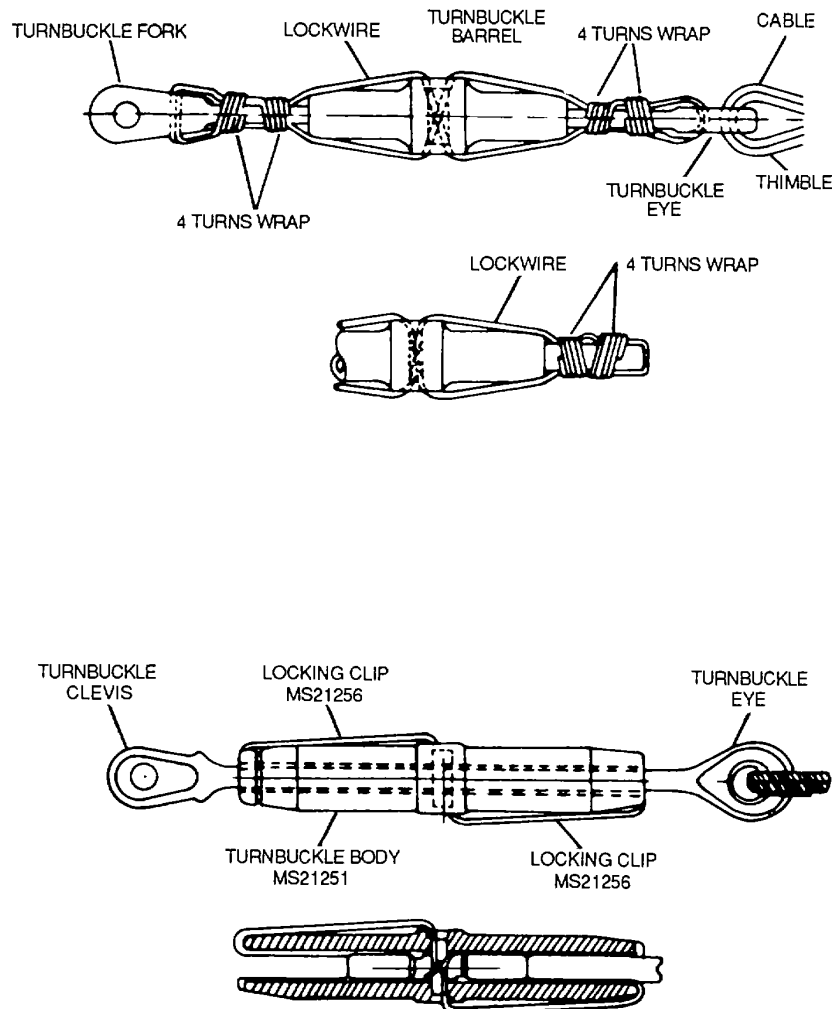

Figure 2-80. Typical Turnbuckle Assemblies
(1) Use a 0.020-inch diameter copper wire when emergency devices such as canopies, exits, and the like require servicing.
(2) Use a 0.020-inch diameter copper wire to secure nonstructural parts such as emergency valves, oxygen regulators, and the like.
(3) Secure first aid kits in accordance with TM 1-1500-204-23-1.
(4) Secure items requiring seal wire to ensure completeness of contents or to determine when container has been used with 0.020-inch diameter copper wire. Seal with a lead seal.
f. Lockwiring Turnbuckles. The standard procedure for securing turnbuckles is shown in figure 2-80. Employ this procedure when lockwire replacement is required on turnbuckles secured by other methods. Use wire sizes specified as follows: 0.032-inch diameter on assemblies where cable diameter is 1/16-inch, 0.041-inch diameter wire on assemblies where cable diameter is 3/32-, 1/8- or 3/16-inch, and 0.047-inch diameter wire on assemblies where cable diameter is greater than 3/16-inch.